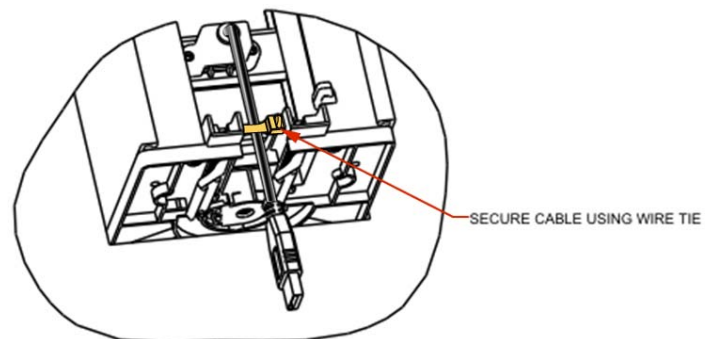

FIG. 5 BOTTOM VIEW WITH CABLES EXITING AND SECURED
- For terminations for which the far end of the cable is not accessible (either because the cable has been run under carpet, in a conduit or structure, or is otherwise fixed), the cable must be placed through the cutout in the table prior to installation, as indicated in FIG. 5.
- Secure these cables and the power cable to either of the end caps using the supplied wire ties (FIG. 5).